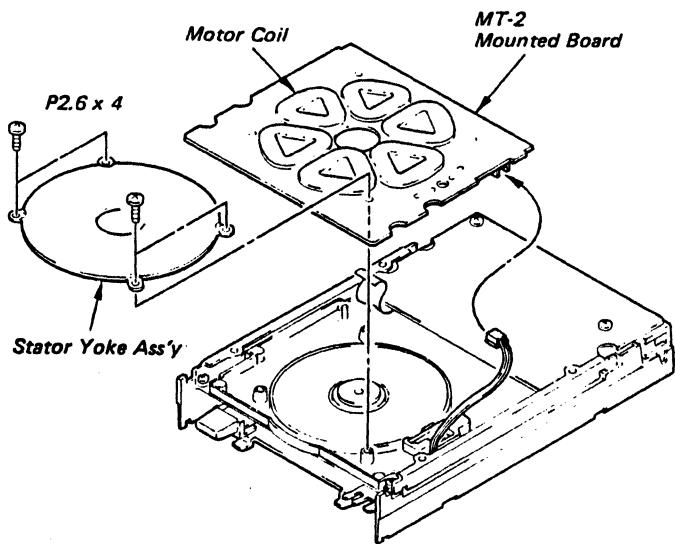

Fig. 4-4 MT-2 Mounted Board Replacement
- Remove the four screws (P2.6x4) securing the Stator Yoke Ass'y and then remove the Stator Yoke Ass'y. (Refer to Fig. 4-4)
- Install the Stator Yoke Ass'y on MT-2 Mounted Board with four screws (P2.6x4), not to damage to six motor coils for disk motor. (Refer to Fig. 4-4)
- Remove the four screws (P2.6x4) securing the stator yoke ass'y and then remove the stator yoke ass'y. (Refer to Fig. 4-4)
- Install the stator yoke ass'y on MT-2 mounted board with four screws (P2.6x4), not to damage to six motor coils for disk motor. (Refer to Fig. 4-4)